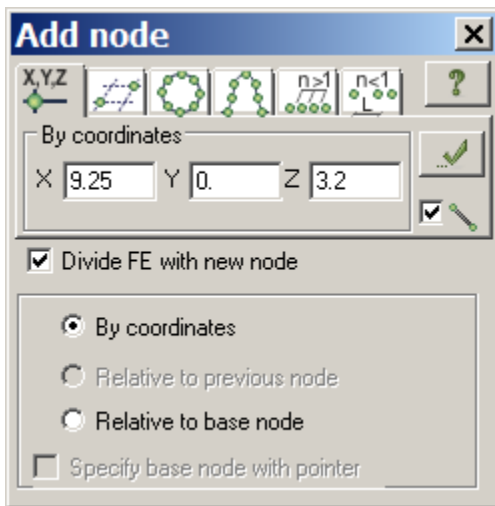

Figure 12.10 Add node dialog box
- ⇒ In the **Add node** dialog box (see Fig.12.10), define coordinates for the node: